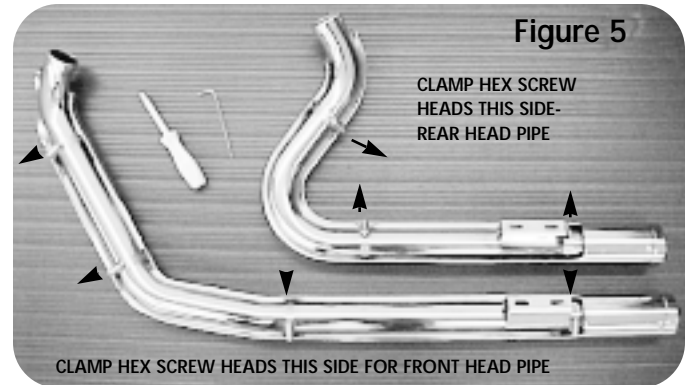

Figure 5
4. Install each hose clamp by feeding tail end of clamps into heat shield clips. Take note of location of clamp screw head. (Figure 4&5) (screw head must be accessible when system is installed on motorcycle for adjustment purposes.) (Figure 5)